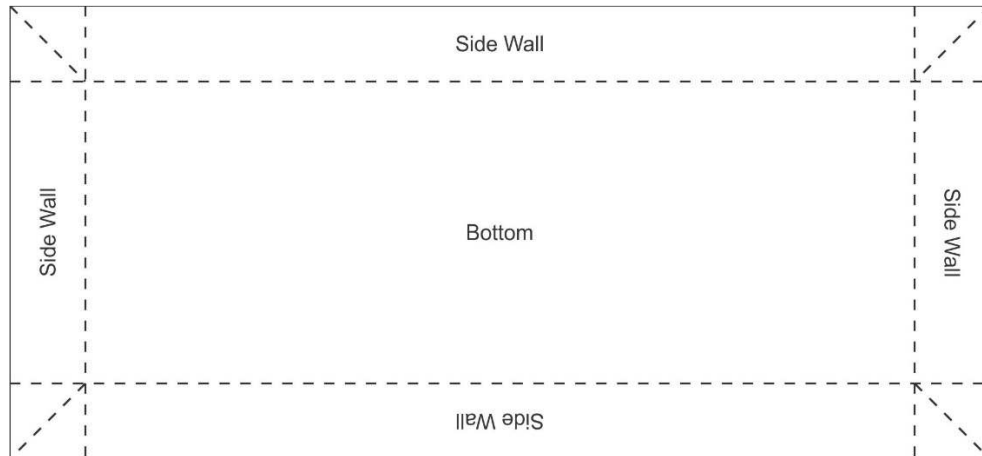

Figure 16
22. There are a few different techniques for folding a liner around the corners. The most common method is to take each corner and crease it inward (along the diagonal lines shown in Figure 16), then fold it against the end wall of the frame. Two clips should be used to secure it into place. If you are not familiar with folding the liner, we recommend practicing on a piece of paper and make a small “tray” with it.